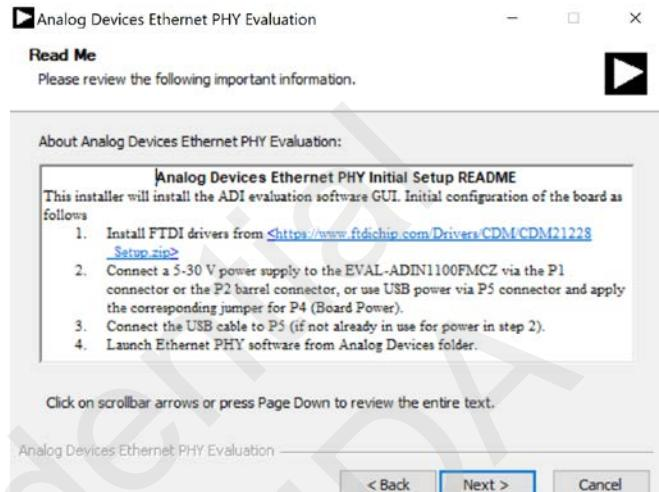

Figure 18. Installation Process Overview
4. The Ethernet PHY software launches. An overview of what is being installed and recommendations in terms of hardware power-up appears. Read the overview and click Next (see Figure 18).